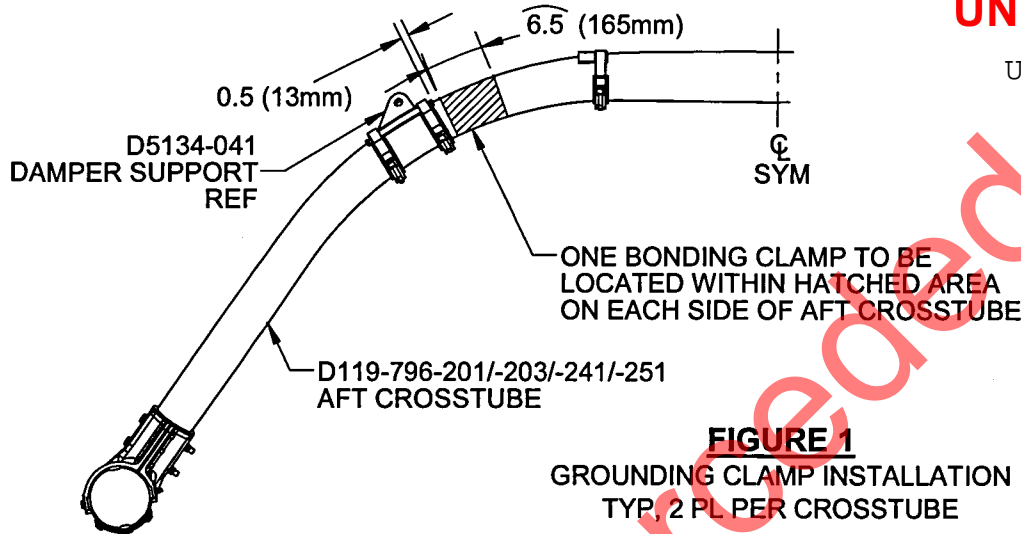

FIGURE 1
- 2) Locate D5515-1 Grounding Clamp as shown in Figure 1 of this service instruction and mark location of the clamp on the crosstube.